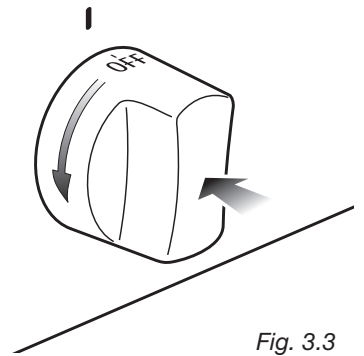

Fig. 3.3
2) Press the oven control knob right down and, keeping it pressed, turn counter-clockwise (fig. 3.3) to max position **8** ★ .